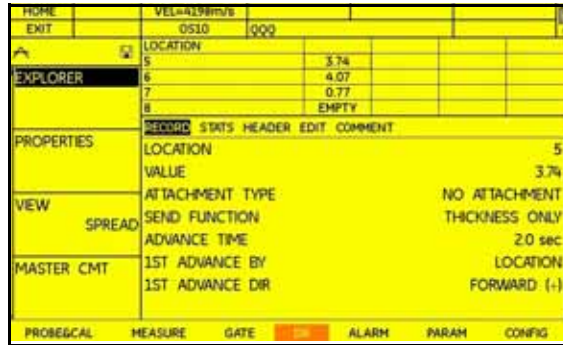

Figure 29: The Properties Option
Use the joystick to select the file, and then press F2 or center-press () to confirm your selection. The DMS Go asks, “NOTICE Show File’s Properties?” Move the joystick to Yes, and the PROPERTIES function opens (Figure 29 on page 110).
- **Spread** displays the file by location and data points (see Figure 29 on the next page). The display format is maintained.
1. In the DR submenu, use the joystick () to select and enter the PROPERTIES function. When the DR file is displayed, the name of the DR file is displayed at the top of the grid, and the display appears similar to Figure 29 below. The parameters listed will vary with the type of file created.
1. Be sure the RECORD submenu is highlighted in the PROPERTIES function (see Figure 29 on page 110).